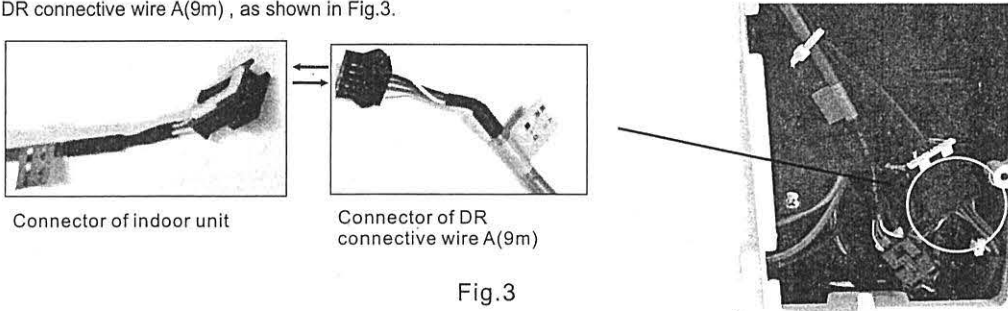

Fig.3
2. Remove the cover of electrical control box of indoor unit by loosening the screw, there is a connector which can be connected with the DR connective wire A(9m) , as shown in Fig.3.